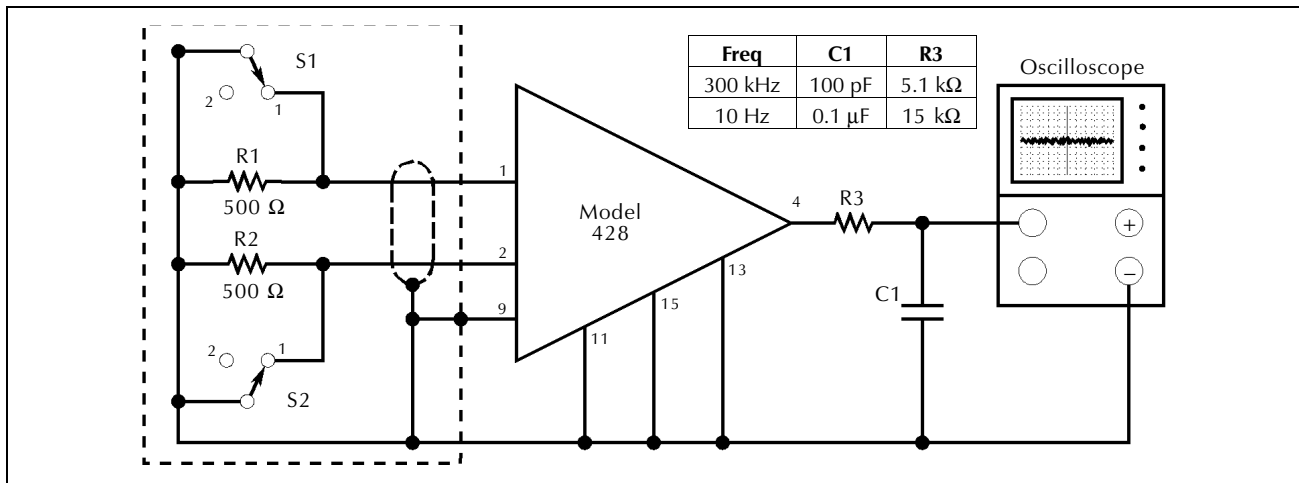

Figure 5-11
To measure the noise attributable to the Model 428, it is necessary to isolate its inputs from outside sources and to connect guard (Pin 9), output common (Pin 11, case (pin 13), and power common (Pin 15) to a single point. The two 500- Ω resistors and two toggle switches shown in Figure 5-11 should be housed completely within a “guarded” box. The Model 428 does not generate any 60-Hz signals. If 60 Hz is present on the oscilloscope display, it is being introduced externally and should not be included in the measurement.
1. Connect the amplifier as shown in Figure 5-11. For R1 and R2, use either metal-film or carbon-film or carbon-composition resistors. To measure RTO noise, set the amplifier gain to 10; RTI noise, 1000.
4. Switch in a 10-Hz filter and repeat Step 3. Values for R3 and C1 are shown in Figure 5-11.